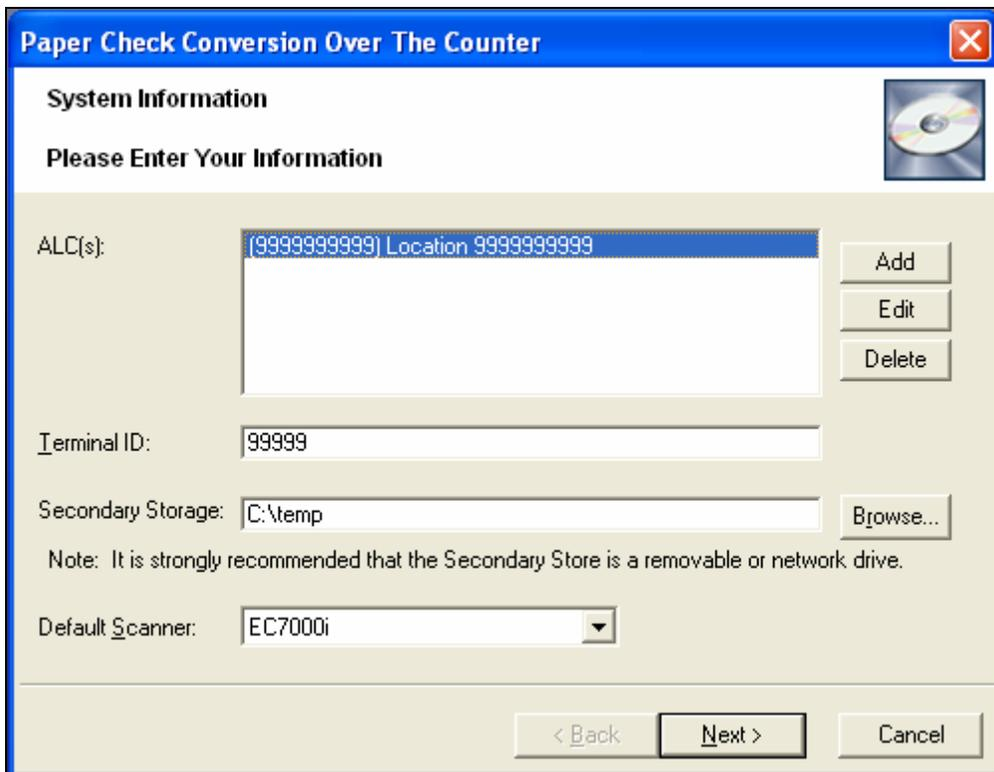

Figure 2.19
- A System Configuration screen will appear as pictured in Figure 2.19.